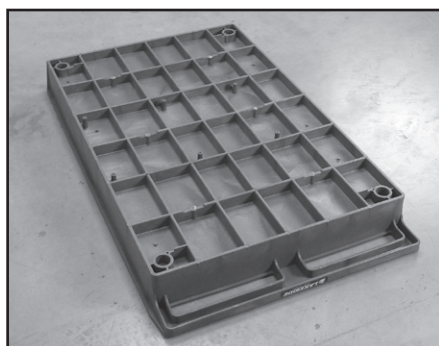

Figure 1
1. Place **Top Shelf** (with push handle) bottom side up on floor. (Figure 1).